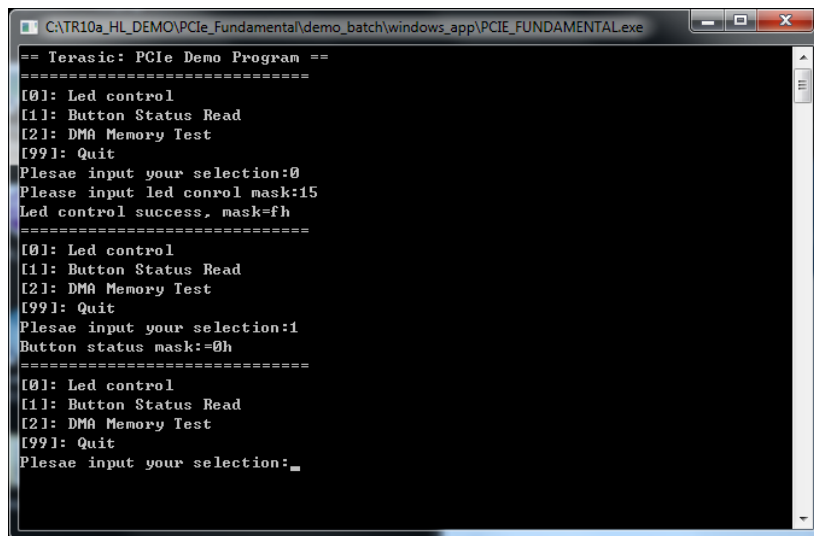

Figure 7-13 Screenshot of Button Status Report
8. Type 1 followed by an ENTERY key to select Button Status Read item. The button status will be report as shown in Figure 7-13.